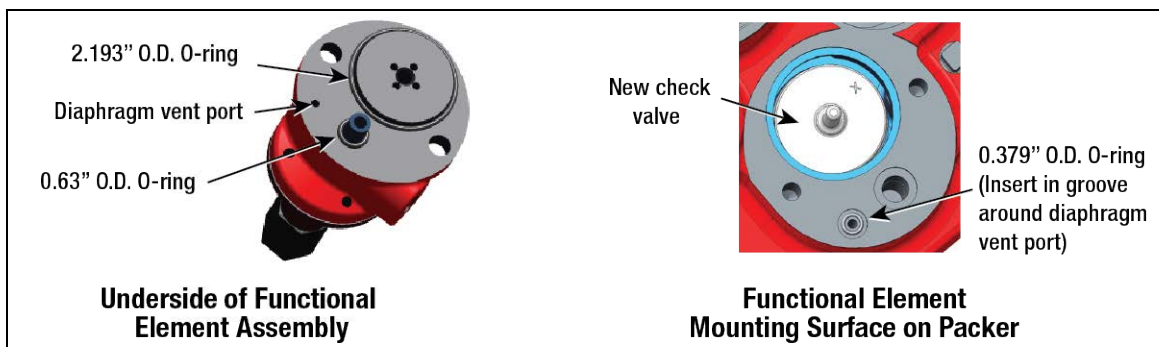

Figure 9. Functional Element O-Rings
- Be certain all mating surfaces are clean on the body of the Functional Element and the Packer. Lubricate the three new functional element O-rings from the kit with petroleum jelly. Install the 2.193" O.D. and 0.63" O.D. O-rings in the bottom of the functional element as shown in Figure 9. Install the new 0.379" O.D. O-ring in the groove around the packer's diaphragm vent port.